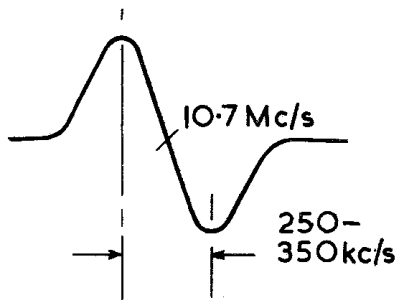

FIG. 3
3. Reduce sensitivity of oscilloscope by about 40 dB and connect input of oscilloscope to junction R29 (.1 M Ω) and C51 (.02 μ F) on the grid of V5. Turn volume control to maximum and reduce input as necessary to give a suitable discriminator curve display as the circuit is brought into line. Adjust L21 for 'S' shaped curve as Fig.3. The centre of the straight portion of the curve should occur at 10.7 Mc/s. Re-set volume control to minimum.